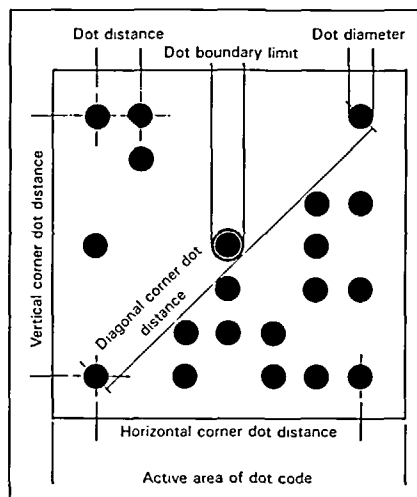

Figure 3.
- The allowed deviation in horizontal and vertical centrepoint distance of the corner dots equals dot diameter divided by ten (see Figure 3).
- The allowed deviation between dots at the diagonals is equal to the dot diameter divided by ten (see Figure 3).